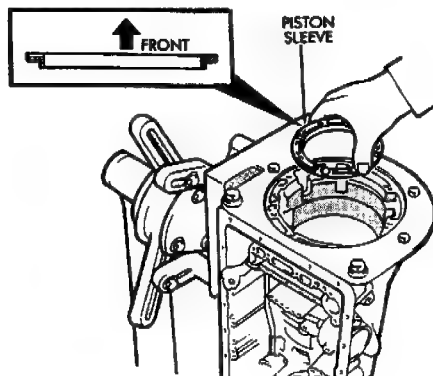

Fig. 8 Installing Second Brake piston Sleeve
(10) Check first-reverse brake pack clearance with feeler gauge. Clearance should be: 0.6 to 1.74 mm (.024 to .069 in) on 4-cyl. transmissions and .70 to 2.00 mm (.028 to .079 in) on 6-cyl. transmissions. If clearance is incorrect, planetary assembly, thrust bearing or snap ring is not properly seated in case. Remove and reinstall components if necessary.
(11) Install second brake piston sleeve (Fig. 8). Sleeve lip faces up and toward case front as shown.